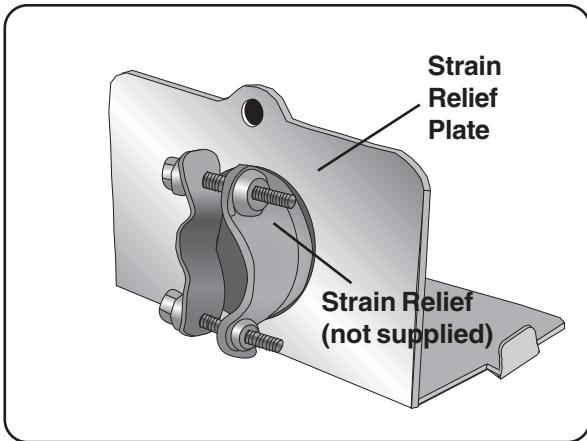

Figure 27
- 1 Retrieve the strain relief plate, and install a strain relief (not supplied) into the opening on the strain relief plate. **NOTE:** Orient the strain relief as shown in **Figure 27**.